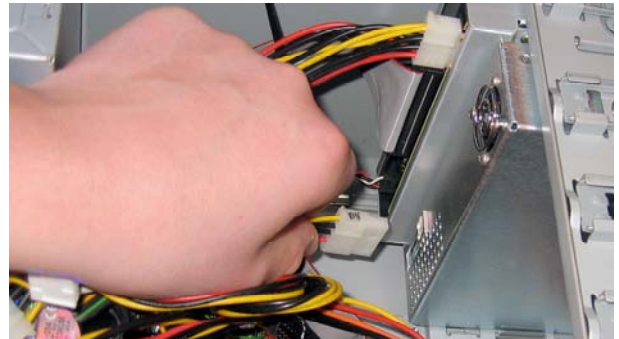

Figure 2-15: Plug the HDD power cable or the Y adapter into the back of the driveBAY
- d. Plug the other end of the Y-adapter into the back of the driveBAY (Figure 2-15).